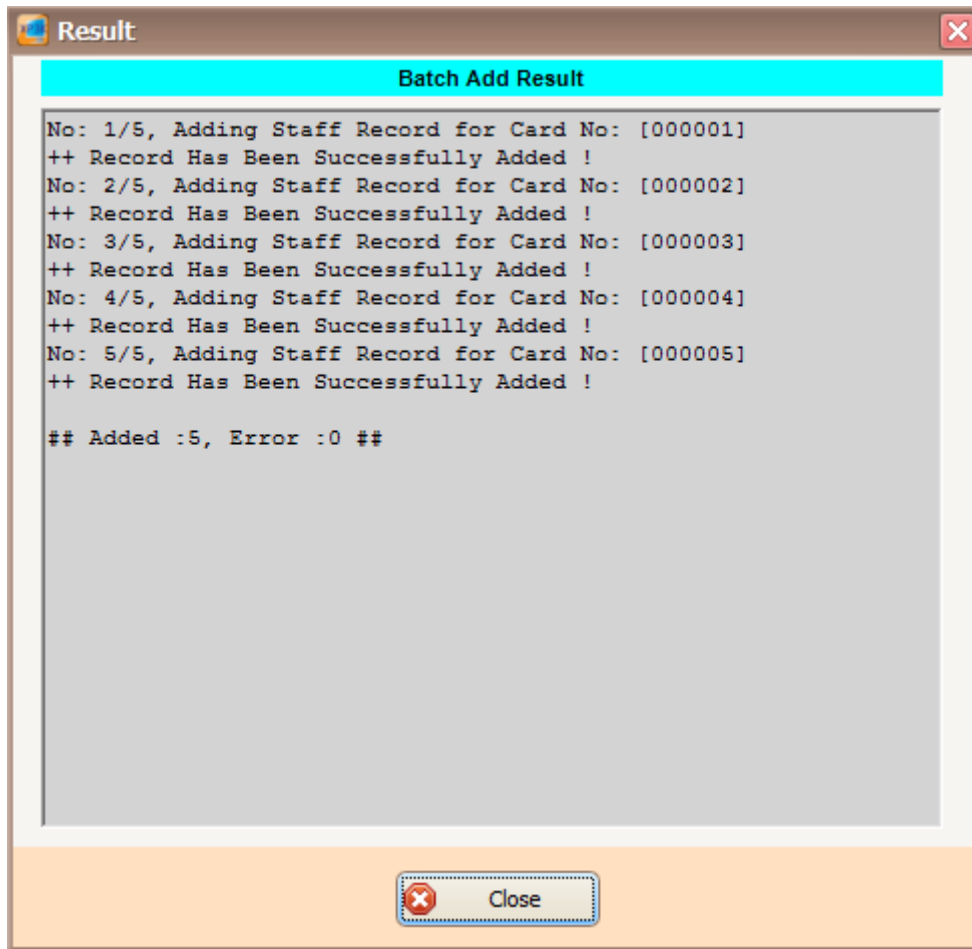
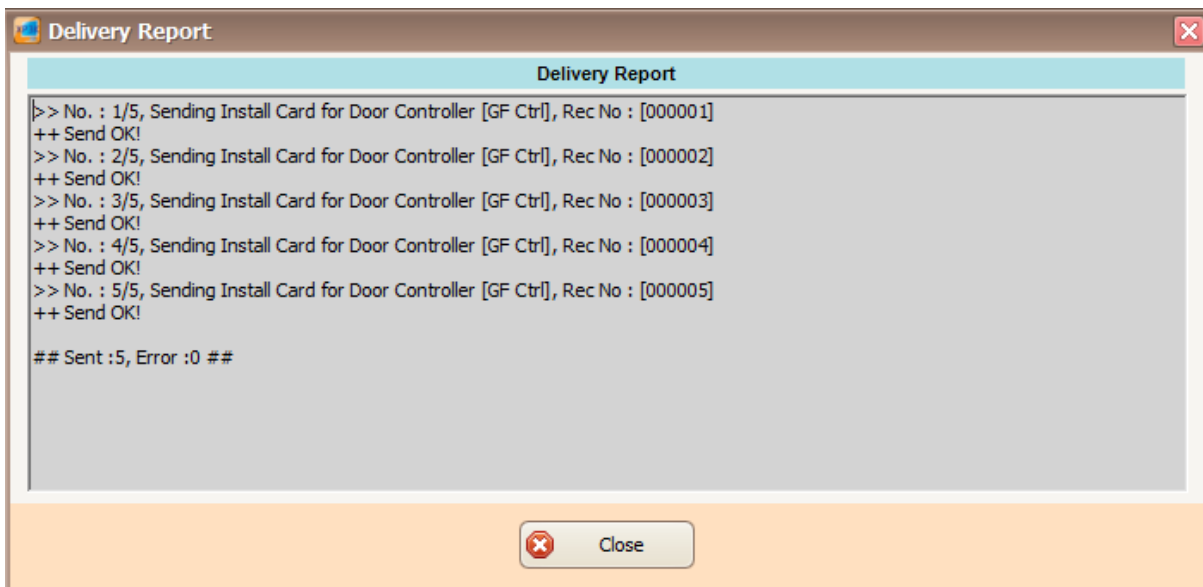

Figure 204 - Batch Add Result
Figure 205 - Delivery Report Install Card (Batch Add)
17. After downloading all the settings, it will display a report of data being sent. Click Close to return to Staff Detail Setup menu (Refer **Figure 204 and Figure 205**).